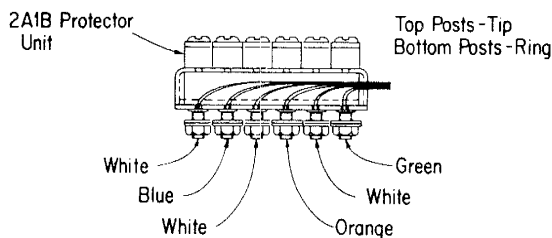

Fig. 3 — Color Code of 3A2B-3 (F-53458) Terminal Block
2.04 If cable protection is required, remove the P-18A782 Terminal Block and substitute a 3A2B-3 Terminal Block (3 pair). The 3A2B-3 Terminal Block replaces the F-53458 Terminal Block. See Fig. 3.